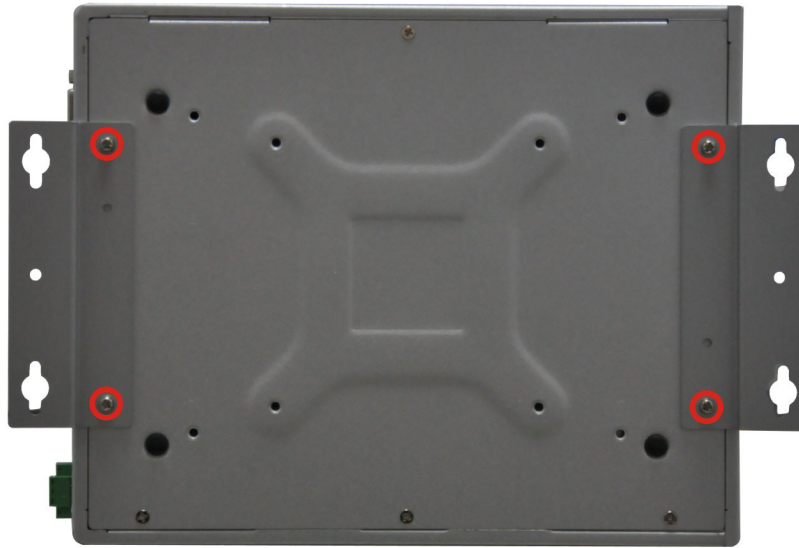

Figure 3-6: Mounting Bracket Retention Screws
- Step 2:** Align the two retention screw holes in each bracket with the corresponding retention screw holes on the bottom panel (**Figure 3-6**).
- Step 3:** Secure the brackets to the system by inserting two retention screws into each bracket (**Figure 3-6**).